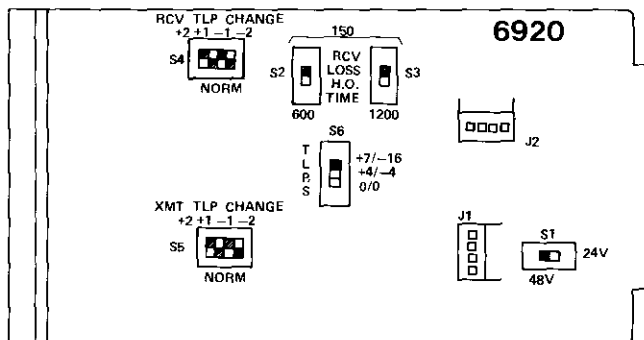

figure 2. switch locations
3.05 Six option switches (four slide switches and two 4-position DIP switches) must be set before the 6920 is placed in service. Locations of these switches on the module are shown in figure 2.